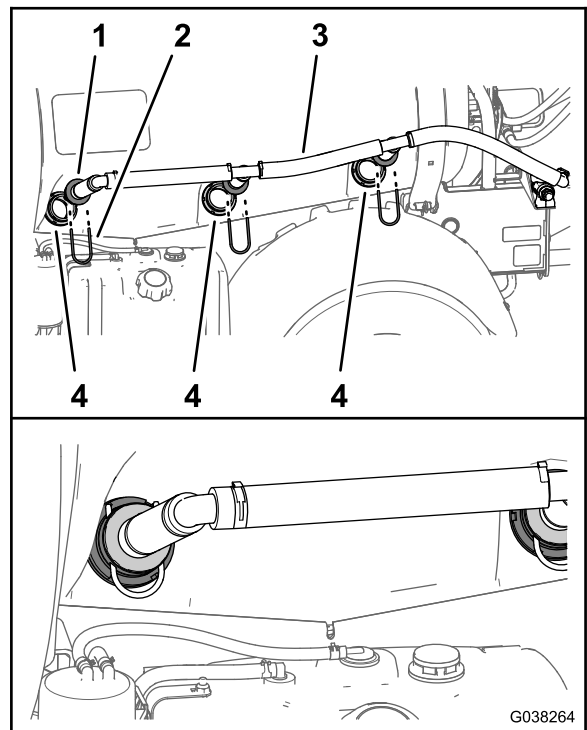

Figure 62
1. Insert the 3 agitation nozzles of the agitation-nozzle assembly into the bulkhead fittings of the sprayer tank (Figure 62).
2. Secure the agitation nozzles with the 3 retainers (Figure 62) that you removed in step 1 of Removing the Agitation Nozzles from the Sprayer Tank (page 13).